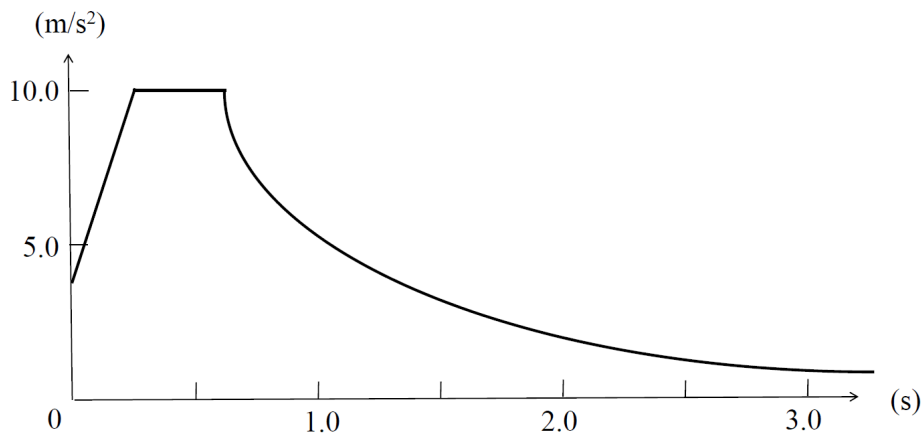

Figure 4-1
- (1) Answer the physical quantity of the horizontal and vertical axes respectively for the 5%-damped elastic design spectrum for acceleration response shown in Figure 4-1.
- (2) Answer the primary natural period for a structure with a single-degree of freedom system with a weight of 5×10^4 N and an elastic spring constant of 2×10^5 N/m. Also, answer the response acceleration and the seismic force for the elastic design spectrum for acceleration response in Figure 4-1. The following equations are referenced. Calculate to the first decimal place for the answers.
- (3) Figure 4-1 is the elastic design spectrum for acceleration response at the engineering bedrock. Select a figure with dashed lines for significantly soft soil at the ground surface from Figure 4-2. In addition, write reasons why you selected the figure.
- (4) When creating an input ground motion waveform that follows the elastic design spectrum for acceleration response in Figure 4-1, what kind of treatments are necessary to create a pulse-like ground motion and a long-lasting ground motion, respectively?